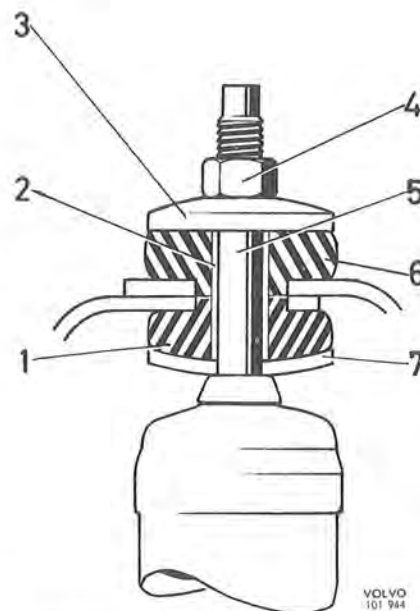

Fig. 7-7. Upper attachment, front shock absorber
3. Check the rubber bush and lower washer (1, and 7, Fig. 7-7) of the upper shock absorber attachment. Place the shock absorber in position and tighten its attachment.
The front shock absorber upper attachment (Fig. 7-7) consists of a spindle (5), which with upper bushes (1 and 6), washers (3 and 7) and a spacing sleeve are fixed into a housing in the front axle member,
1. Remove the upper nut (4, Fig. 7-7), the washer (3) and the rubber bush (6).